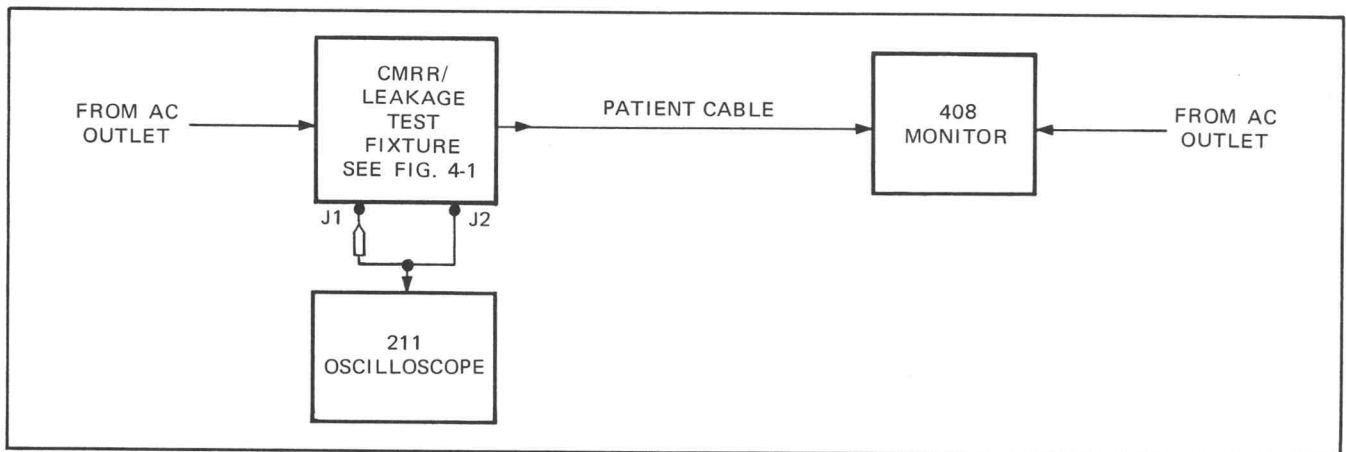

Fig. 4-4. Recommended method to check leakage current.
**RECOMMENDED METHOD.** Set up the monitor and the test fixtures as shown in Fig. 4-4.